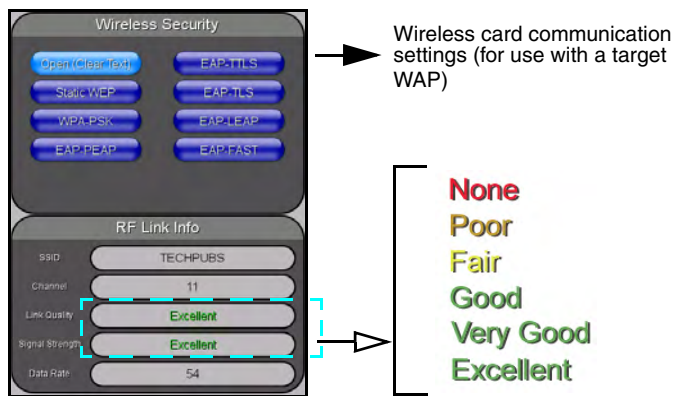

FIG. 12 Wireless Security section
- Repeat the first four actions from the preceding Step 1 to open the Wireless Settings page and then locate the Wireless Settings section (FIG. 12).